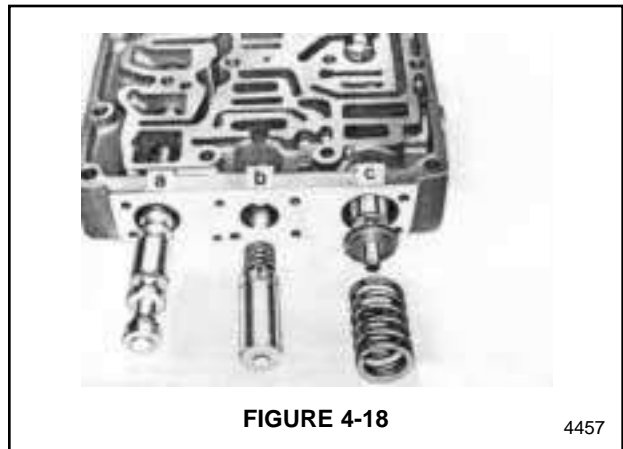

FIGURE 4-18
9. Insert spool (27) into bore "a." See Figure 4-18.
10. Install spring (25) and piston (26) into bore "b." Spring length is 73.8 mm (2.9"). See Figure 4-18.
11. Install the spool (24), stop washer (23), and spring (22) into valve bore "c." See Figure 4-18. Spring length is 46.6 mm (1.83"). Washer thickness helps determine control pressure. Control pressure is marked on transmission identification plate.